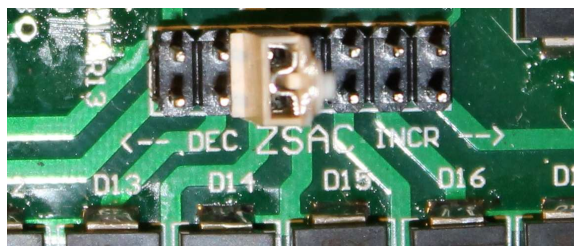

Figure 2.28: Electronic Bias ZSAC Adjustment Jumper
5. Set the ZSAC control jumper as shown in Figure 2.28.